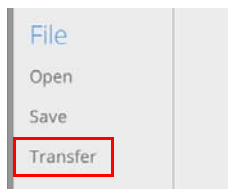

FIG. 46 File → Transfer
1. In the Side menu, click **File > Transfer** (FIG. 46):